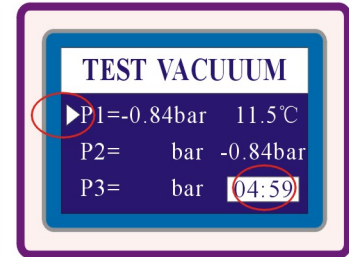

Fig.6.4-29
(3) when the pressure reach -0.85bar , the vacuum pump stop work. this pressure is maintained for 5 minutes and then measured P2. (Fig.6.4-29)